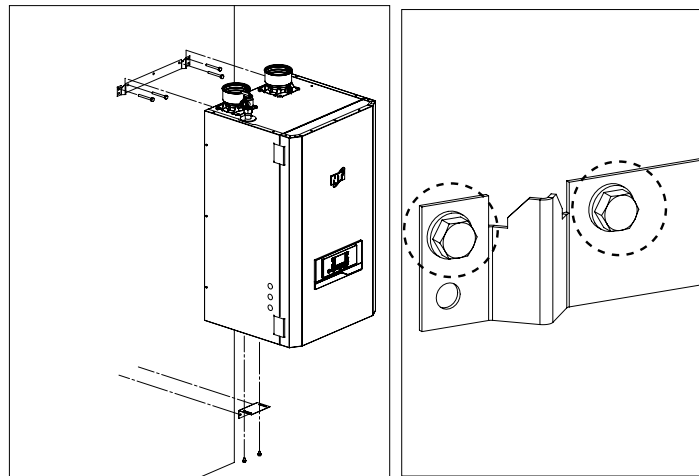

Figure 4 - Mounting to a Concrete Wall
1. Position the upper wall mounting bracket on the concrete wall. Ensure the bracket is level. Then use the bracket as a template to mark four (4) drilling holes on the wall - two (2) on each side of the bracket. See Figure 4 for details.